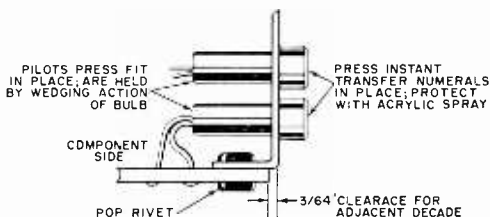

Fig. 5. Drilling details for the lamp bracket are shown at the left. The bracket is secured to the printed board and bulbs inserted as shown above.
MISC—Aluminum bracket (See Fig. 5); pop rivets (2); #24 solid wire jumpers (4); PC terminals (6); 3/16"-high instant transfer numerals, black; protective plastic spray; solder; etc.
The readout lamp display bracket is cut and bent out of 1/32" aluminum following the layout in Fig. 5. Two pop rivets secure the lamp bracket to the board. The indicator lamps press-fit into the holes in the bracket, through the front, and are secured by the wedging action of the plastic lens caps. Each bulb lead is